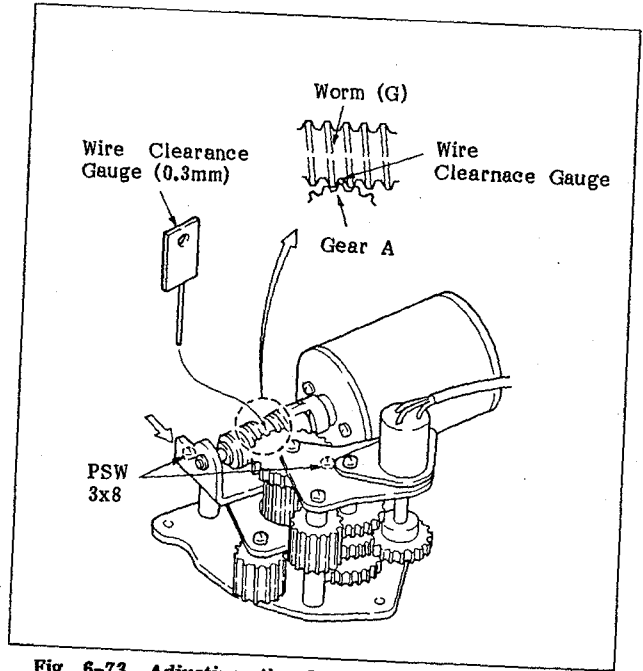

Fig. 6-73 Adjusting the Position of the Threading Motor Assembly
6. Insert the 0.3 mm diameter wire clearance gauge between gear A and the worm gear as shown in Figure 6-73, and then tighten the two screws (PSW3 x 8) firmly while pushing the threading motor assembly in the direction of the arrow. Check that the 0.5 mm diameter wire clearance gauge cannot be inserted in that clearance.